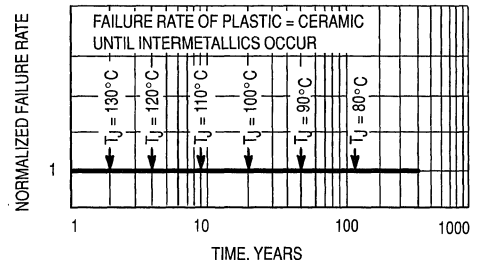

Figure 43. Failure Rate versus Time Junction Temperature
Table 4 is graphically illustrated in Figure 43 which shows that the reliability for plastic and ceramic devices is the same until elevated junction temperatures induce intermetallic failures in plastic devices. Early and mid-life failure rates of plastic devices are not effected by this intermetallic mechanism.
in the system should be evaluated for maximum junction temperature. Knowing the maximum junction temperature, refer to Table 4 or Equation (1) on page 2-17 to determine the continuous operating time required to 0.1% bond failures due to intermetallic formation. At this time, system reliability departs from the desired value as indicated in Figure 43.